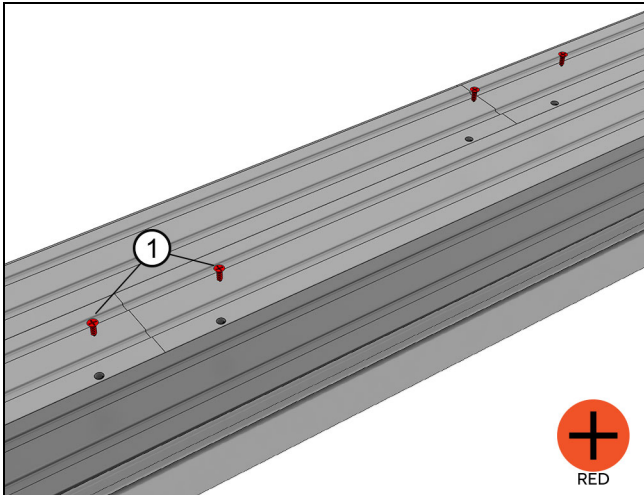

Figure 37
9. Insert #8 x 1/2" (13) screws and tighten. See Figure 37.